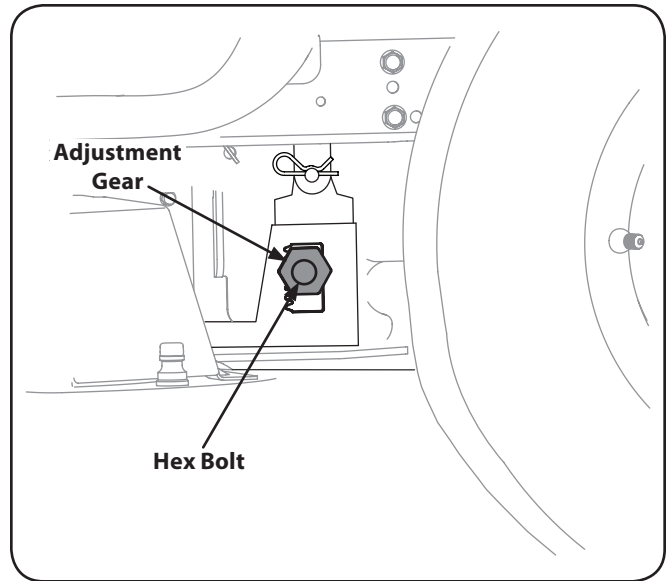

Figure 6-6
3. Loosen, but do NOT remove, the hex bolt on the front left deck hanger link. See Fig. 6-6.
4. Using a wrench, raise or lower the left side of the deck by turning the adjustment gears. See Fig. 6-6.
5. Loosen, but do NOT remove, the hex bolt on the left and right rear deck hanger brackets. See Fig. 6-6.
6. Using a wrench, raise or lower the left and right side of the deck by turning the adjustment gears. See Fig. 6-6.